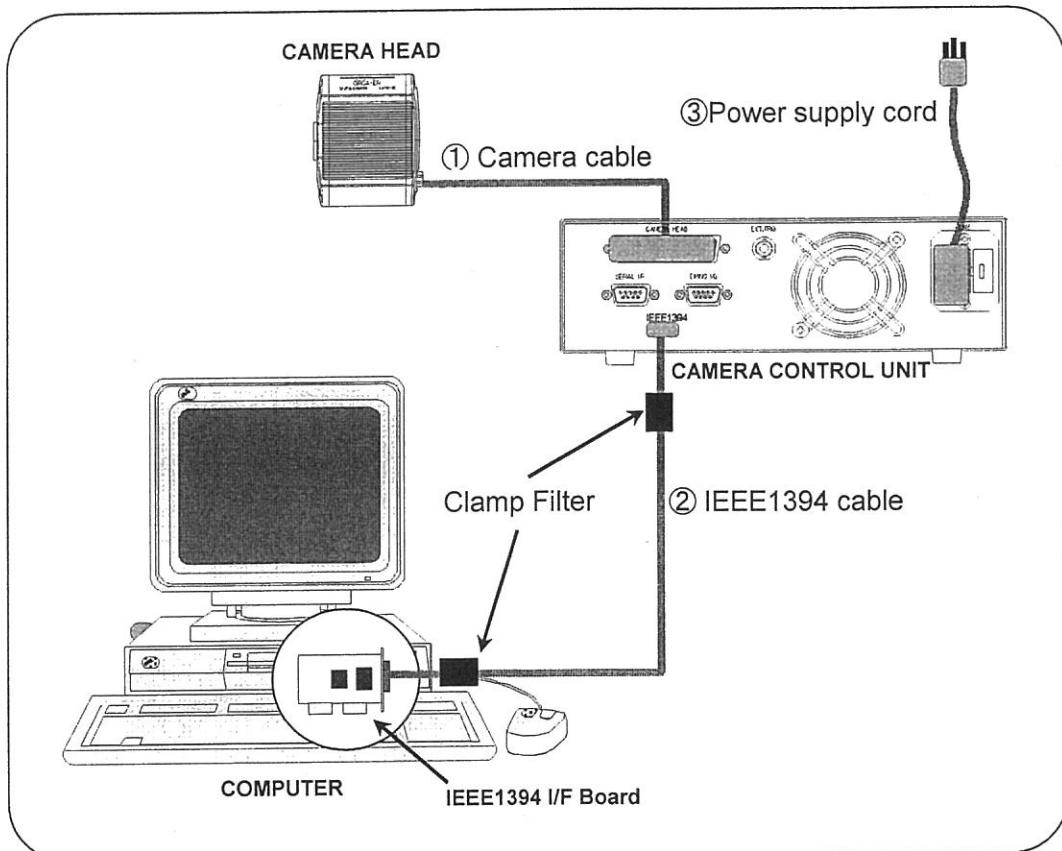

Fig. 7-1
- (1) Connect the equipment as shown in Fig.7-1.
- (2) Switch the camera's power switch to ON.